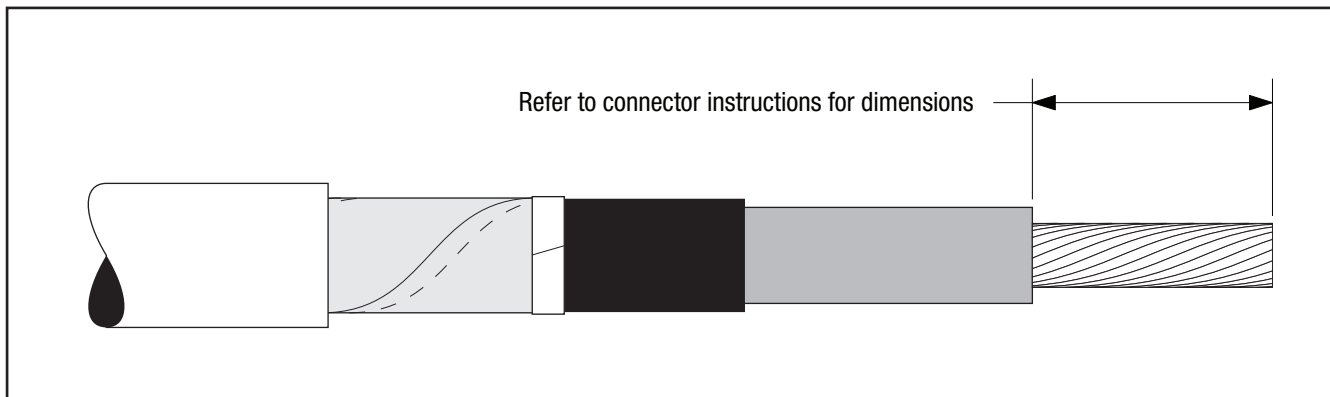

Figure 4
3.1 If using a 3M Shearbolt Connector QCI 4/0-600, refer to the instructions included with the connector for insulation cut-back dimension. Insulation removal length shall not exceed 3" (76 mm) from conductor end (Figure 4).